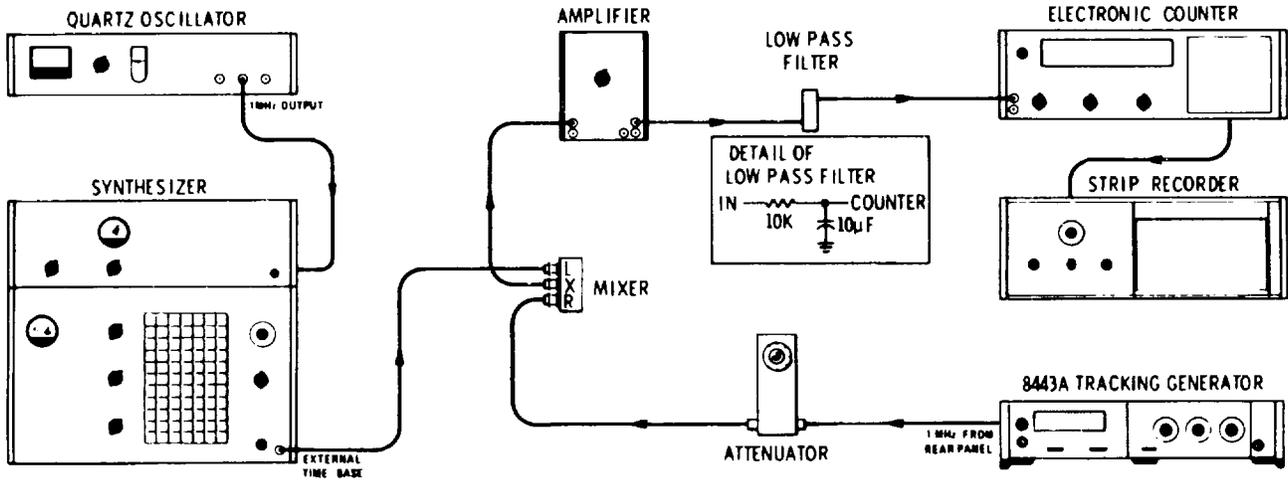

Figure 4-5. Time Base Aging Rate Test
2. After connecting the equipment as shown in Figure 4-5 and setting controls, use the oscilloscope to check for the presence of 50 cycle ac on the 1 cycle input to the frequency counter. If 60 cycles is present it is probably due to a ground loop. Check all equipment grounds.